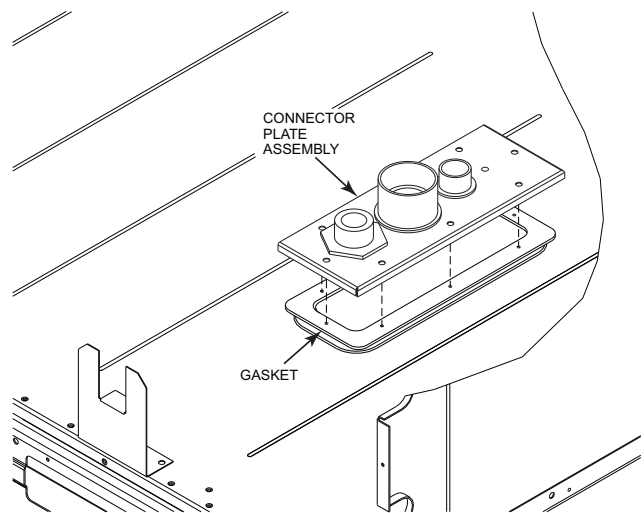

Fig. 29 — Completing Installation of Thru-the-Base Option (Size 180 Shown)
4. Place the gasket over the embossed area in the basepan, aligning the holes in the gasket to the holes in the basepan. See Fig. 29.